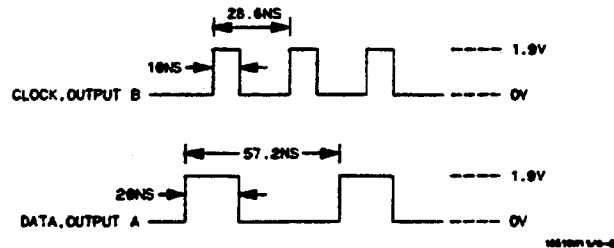

Figure 3-23. Pulse Generator Waveform For Test 5
- Set the pulse generator as follows for the output shown in figure 3-23.